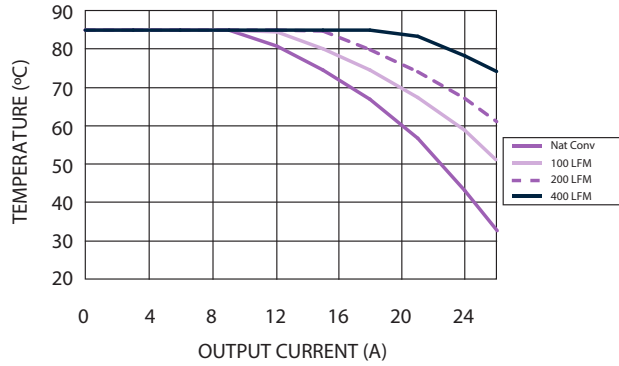
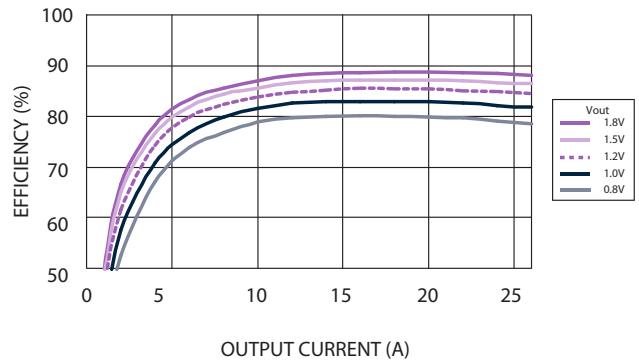

Figure 1 - Safe Operating Area
Figure 4 - Efficiency vs Load Current
- See Figure 1 for safe operating curve of the PTH12030W and Figure 4 for safe operating curve of the PTH12030L.